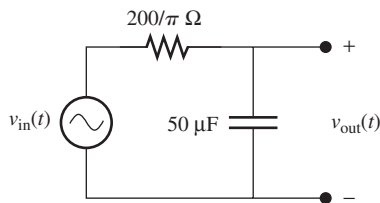

FIGURE P7.18 Circuit for Problem 7.18.
7.18 (B) Sketch the magnitude plot of the transfer function for the circuit shown in Figure P7.18.